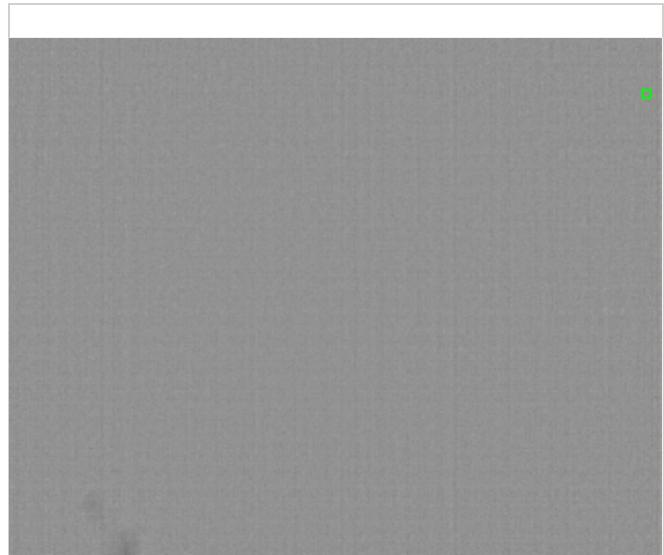

FIGURE 37: “FFC DESIRED” SYMBOL (FACTORY-DEFAULT); UPPER RIGHT CORNER
- **FFC Desired**: By factory default, the symbol shown in Figure 37 is displayed whenever the “FFC Desired” flag is set (Section 6.14.3 and Section 7.9).